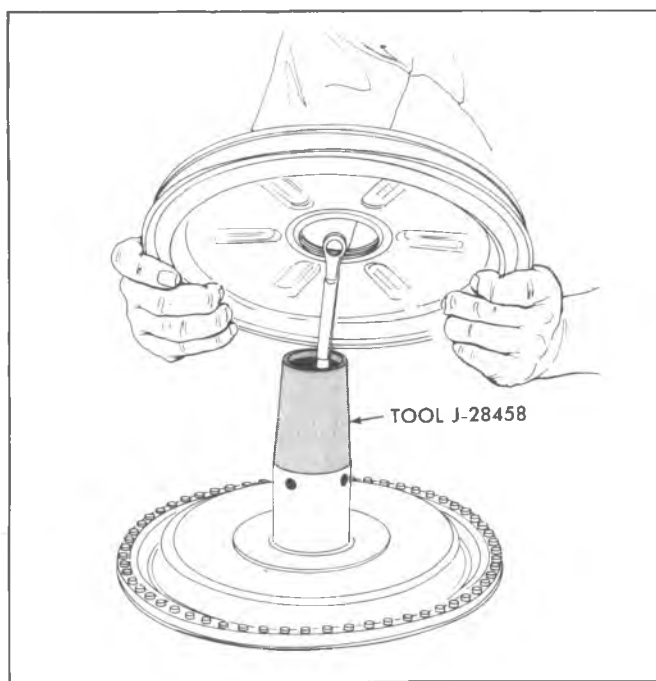

Fig. 5-6A--Installing Divider
20. With Tool J-28458 still positioned on the power piston, hold the housing divider so that formed over flange of the divider faces up. Press the divider down over the tool and onto the power piston tube where it will rest against the secondary diaphragm (fig. 5-6A).